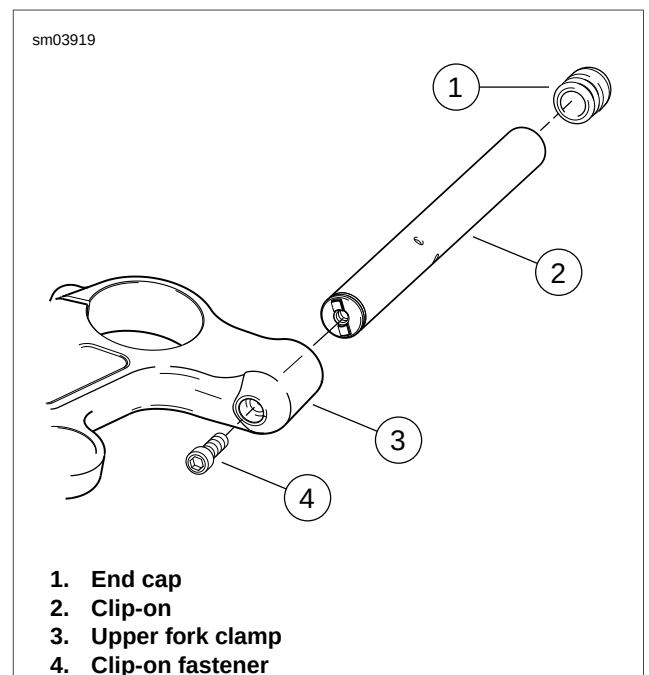

Figure 2-152. Handlebar Clip-On Assembly (Left Clip-On Shown): Firebolt
3. See Figure 2-152. Remove right clip-on assembly.
- a. Partially loosen clip-on mounting fastener (4).
- b. Using a rubber mallet, tap the partially loosened fastener to push the clip-on (2) from the upper right fork clamp (3). Repeat this procedure until fastener and clip-on has been removed from fork clamp.
4. Remove clip-on end cap (1).
- a. See Figure 2-152. Partially loosen clip-on mounting fastener.
- b. Using a rubber mallet, tap the partially loosened fastener to push the clip-on (2) from the upper left fork clamp (3). Repeat this procedure until fastener (4) and clip-on (2) has been removed from fork clamp.
3. See Figure 2-152. Install grip and end cap (1).
4. Install left clip-on into upper fork clamp (3) and tighten fastener (4) to 24-26 ft-lbs (33-35 Nm).
5. Position clutch hand lever to rider preferences and tighten fastener (1) to 60-84 **in-lbs** (6.8-9.5 Nm). See 2.27 CLUTCH CONTROL.